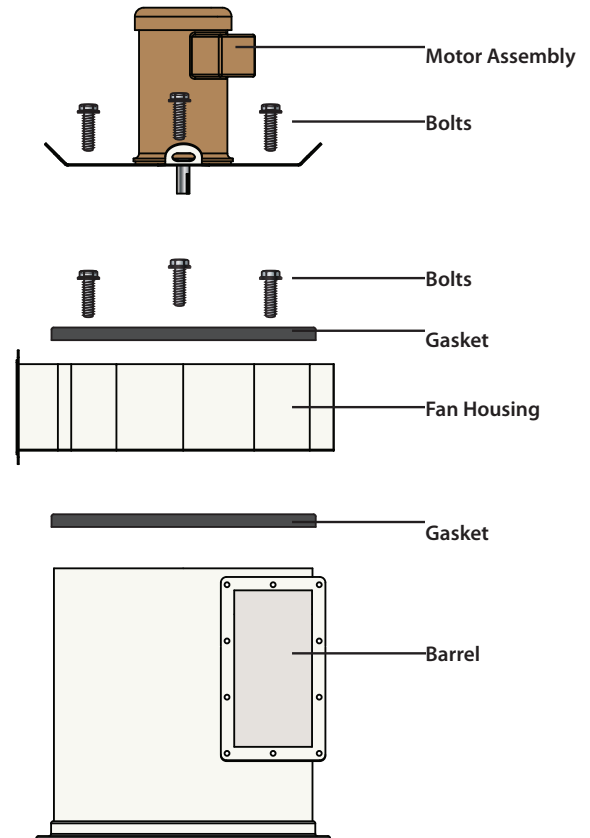

FIG. 3
If you need to alter the Fan Blower Assembly (A) for your setup you will need to unbolt the eight bolts from the motor assembly and unbolt the eight bolts from the fan housing attached to the barrel [FIG. 3]. Then rotate to the desired angle (45° increments).